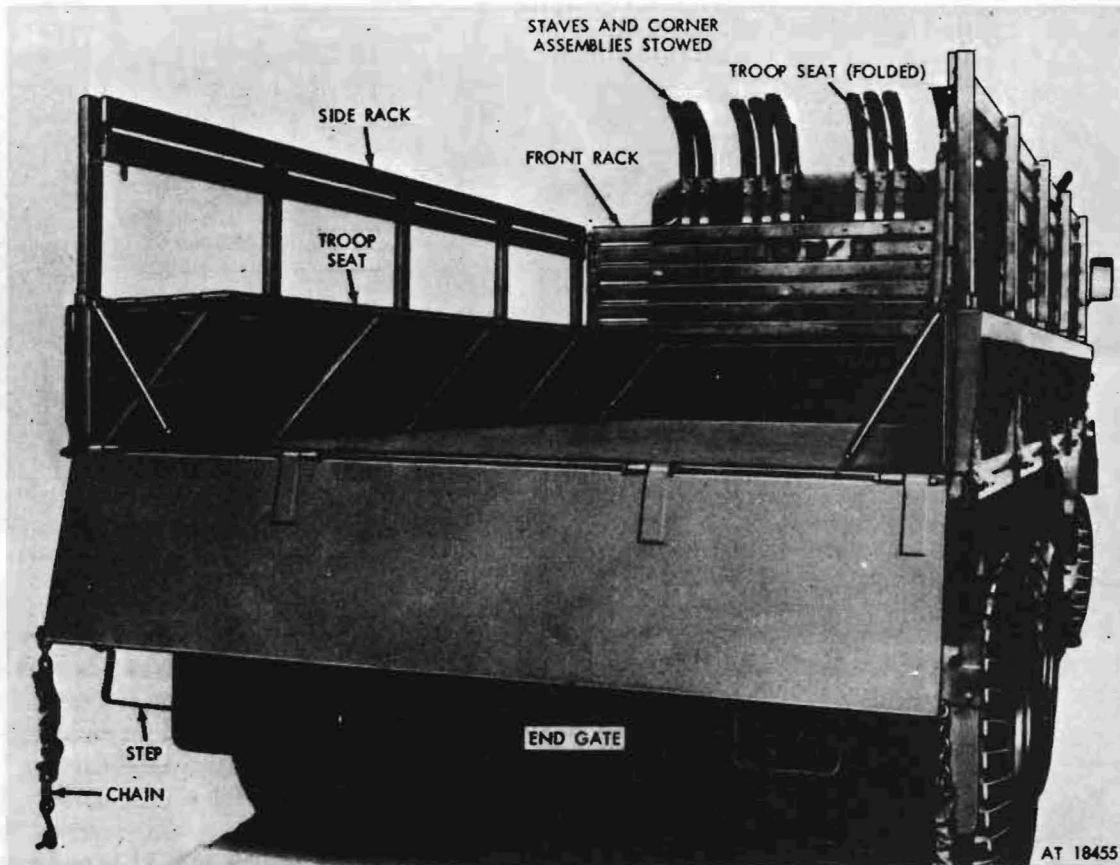
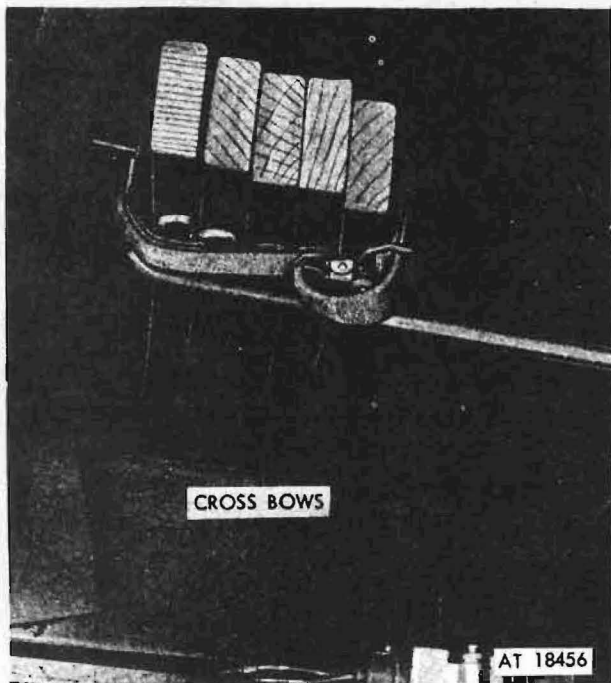

Figure 173.1 M35A2C cargo body.
Figure 173.4. Cross bows, storage.
c. M35A2C, M36A2C. Model M35A2C (fig. 173.1) has right and left hand drop sides and model M36A2C has a right hand drop side. All other models have fixed sides.
(3) Stow stave and corner assemblies (fig. 173.1) and crossbows (fig. 173.4).